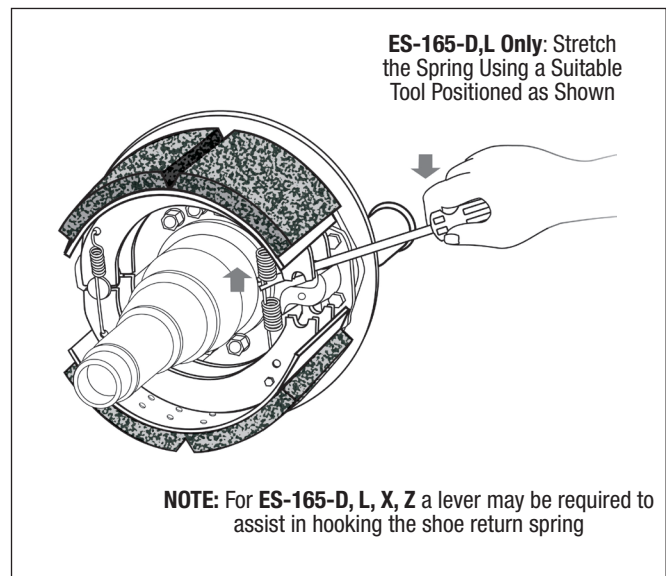

Figure 64 – Shoe Return Spring Installation
5. Install a new shoe return spring. Refer to Figure 64.